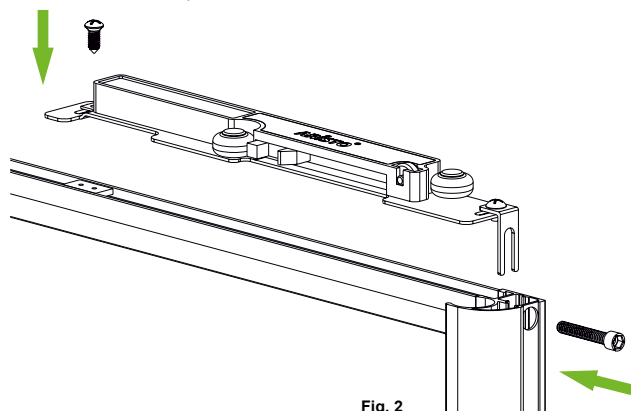

Fig. 2
- 2 Connect the door soft closer to the door (Fig. 2). When installing the soft closer on a previously assembled door, you must take off the top rollers (the soft closer will be installed instead and will substitute them). The soft closer is fixed at two points: first - with an assembly screw to the stile (instead of a top roller), and second - to the element for fixing the screws which was installed in the previous step 1 (screw is included in the set).